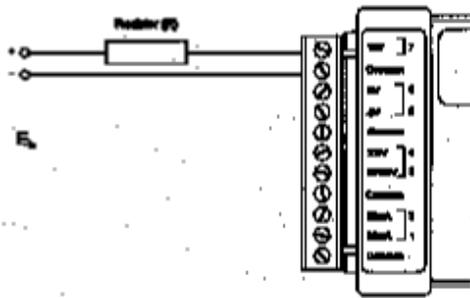

Figure 7-4: Extended Voltage Range on 10V Channel
The 10 volt channel can be modified to span higher ranges (greater than 10 volts DC) by adding a single resistor to the "10V" terminal shown in Figure 7-4. The value of the resistor R must be calculated by following formula based on the desired voltage input range ( $E_{in}$ ):
The 5 volt and 2.5 volt channels can be modified to span higher ranges (greater than 5 and 2.5 volts DC respectively) by adding single resistor, in the same way as shown for a 10V channel in Figure 7-4 to the "5V" and "2.5V" terminals. The value of the Resistor (R) can be calculated by the following equations based on the desired voltage input range ( $E_{in}$ ). Then a final Range can be determined to write an **Equation** for TrendReader for Windows.